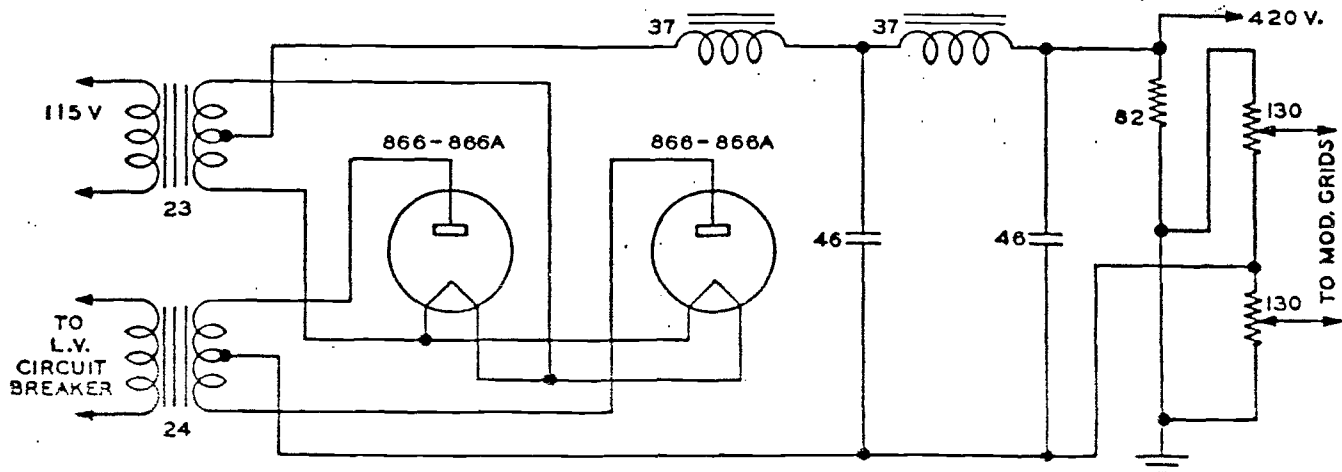

Figure 2-7. Low Voltage Supply
c. LOW VOLTAGE SUPPLY. (Refer to figure 2-7.)—Two Type 866/866A half wave mercury vapor rectifier tubes are connected in a full wave rectifier system. Plate voltage is applied to the low voltage rectifiers by the operation of the time delay relay, Item 4, and the closing of the low voltage circuit breaker after approximately 30 seconds have elapsed. The output of the rectifiers is filtered by a two section choke input filter. The negative side is above ground potential. The voltage from this supply is reduced through a voltage dividing system for application to the plates and screens of the oscillator, *40F-3*